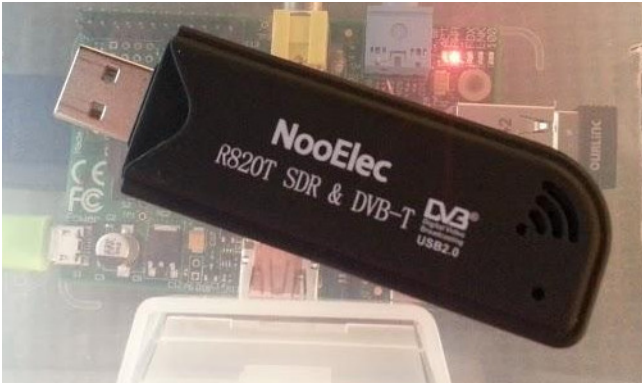

Figure 4-10.
- *NooElec R820T*: these devices are easily found on eBay as well, but be sure you have the E4000 chipset variant. Look for "E4000" in the description to make sure your purchase will work with this project or refer to the list of supported hardware. This device is also called an RTL-SDR, or RealTek Software Defined Radio, because of the vendor of the analog-to-digital chip it uses. It looks like a flash drive (see Figure 4-10), but it is so much more.